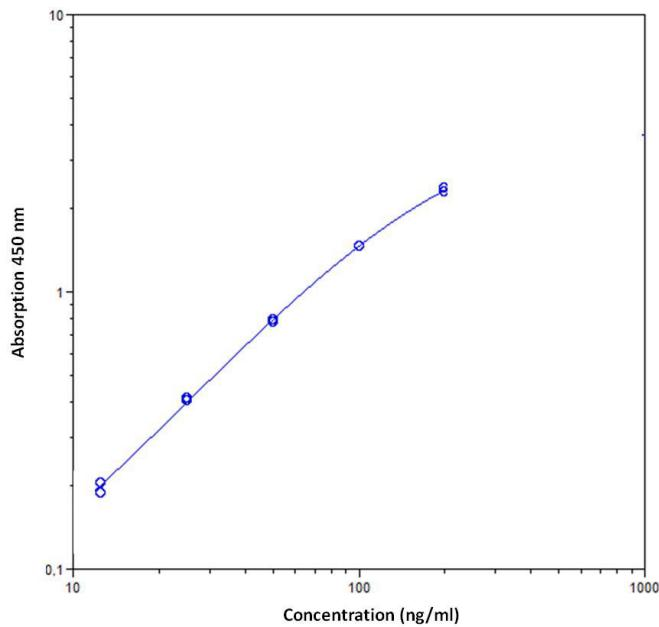

Fig. 6 Representative standard curve for human 90K/Mac-2BP ELISA. Human 90K/Mac-2BP was diluted in serial 2-fold steps in Sample Diluent.
- A representative standard curve is shown in Figure 6.